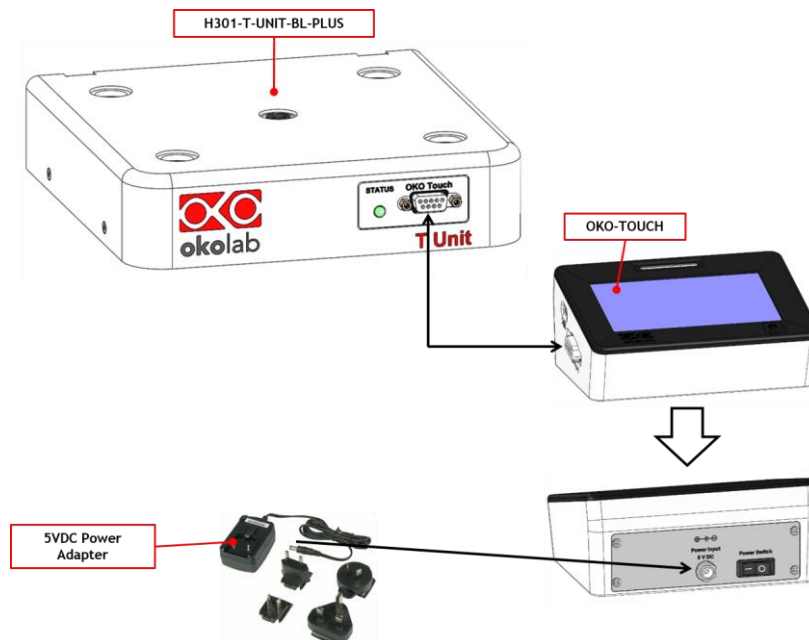

Figure 5. OKO-TOUCH Connection
- Connect the touch screen interface OKO-TOUCH to the Temperature Control Unit using the serial cable provided (see Figure 5).